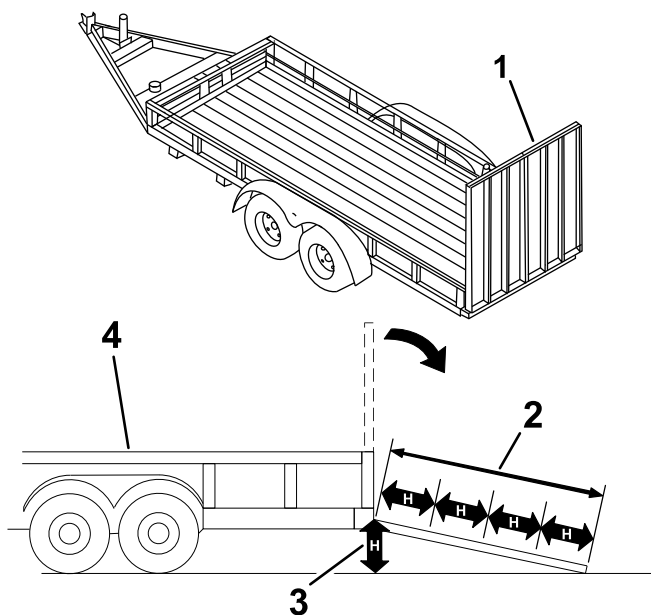

Figure 22
Loading a machine onto a trailer or truck increases the possibility of tip-over and could cause serious injury or death (Figure 22).
3. Lower the ramp (Figure 22).